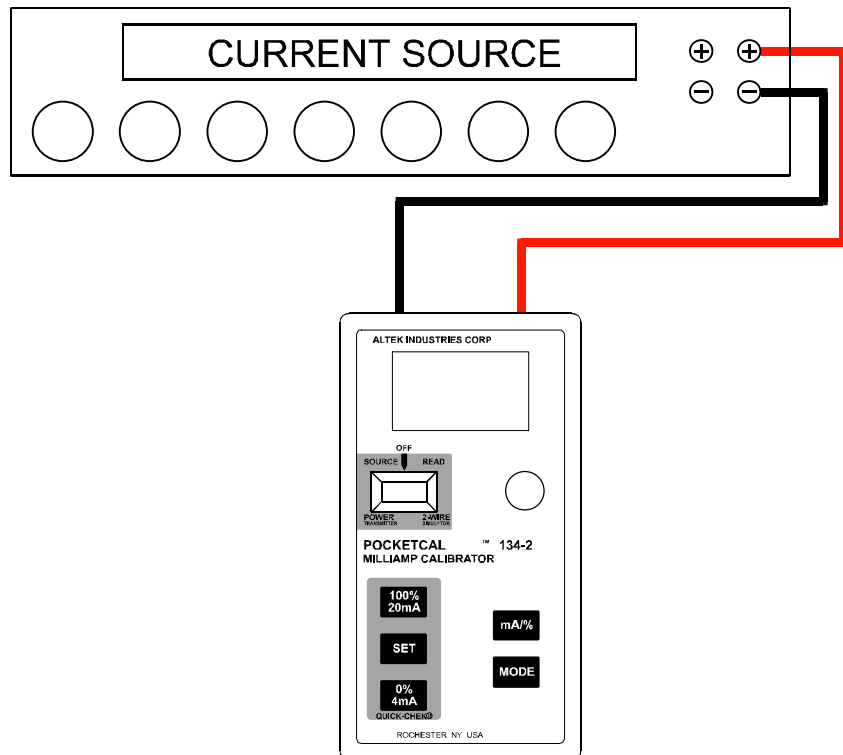

Figure 2
1. Connect the UUT to the Current Source as shown in Figure 2.